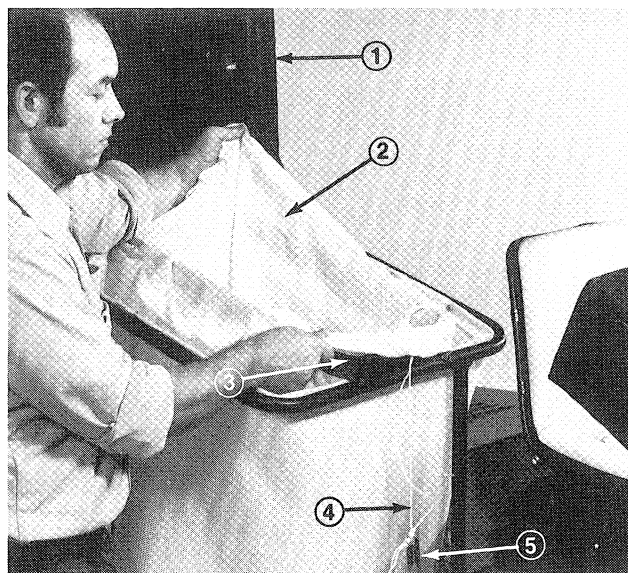

Figure 8
5. Open hood and position bag around inner frame of upper support tube assembly (Fig. 8).